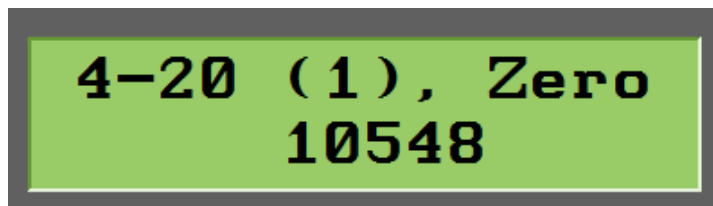

Figure 4-5: Second Level of Hidden Diagnostics Menu
5. Press the right arrow to access the second level of the hidden Diagnostics menu. The text in Figure 4-5 will be displayed.